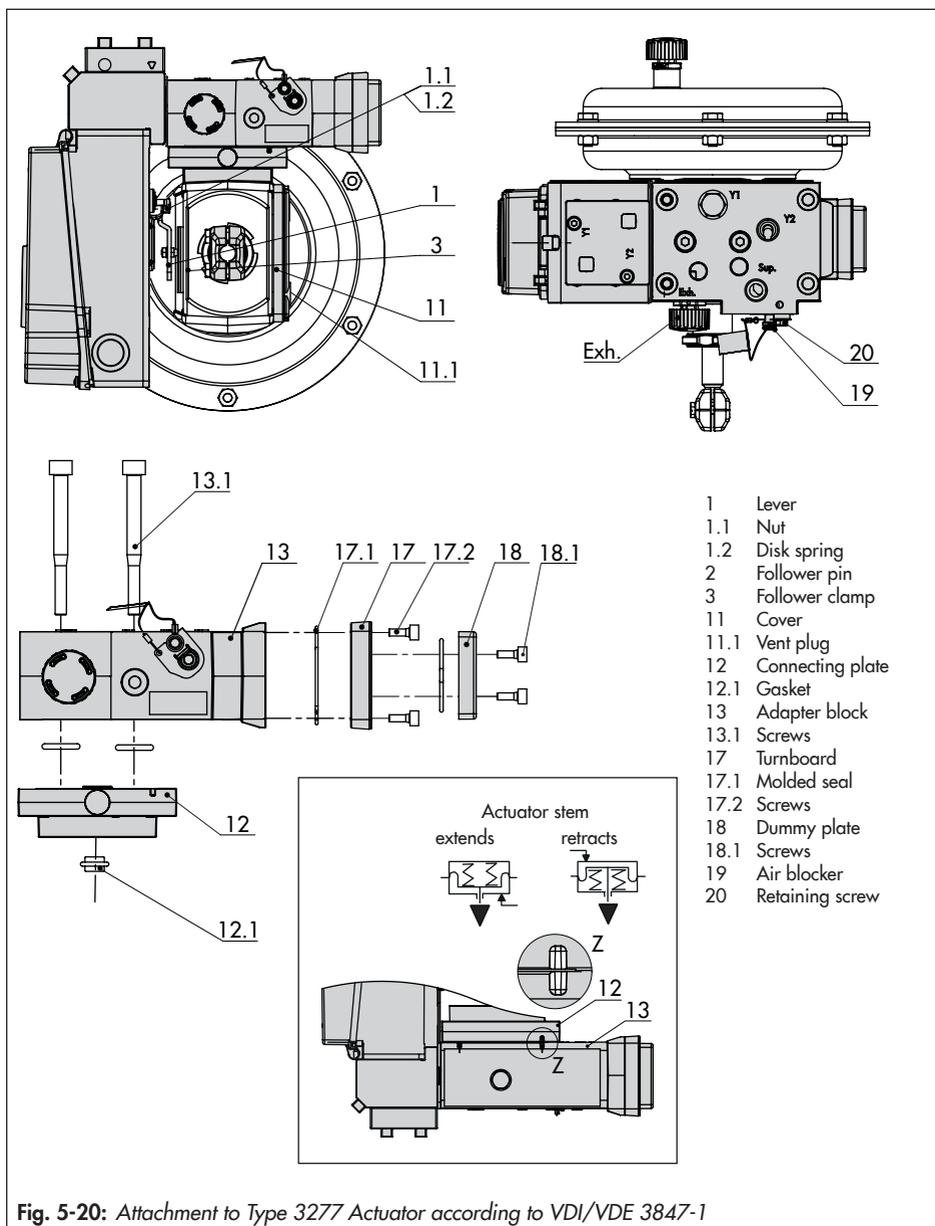

Fig. 5-20: Attachment to Type 3277 Actuator according to VDI/VDE 3847-1
- See Fig. 5-20
11. Fasten the positioner to the adapter block (13) using the two fastening screws (6.3). Make sure the molded seal (6.2) is properly seated (see Fig. 5-20).
12. Mount cover (11) on the other side. Make sure that the vent plug is located at the bottom when the control valve is installed to allow any condensed water that collects to drain off.